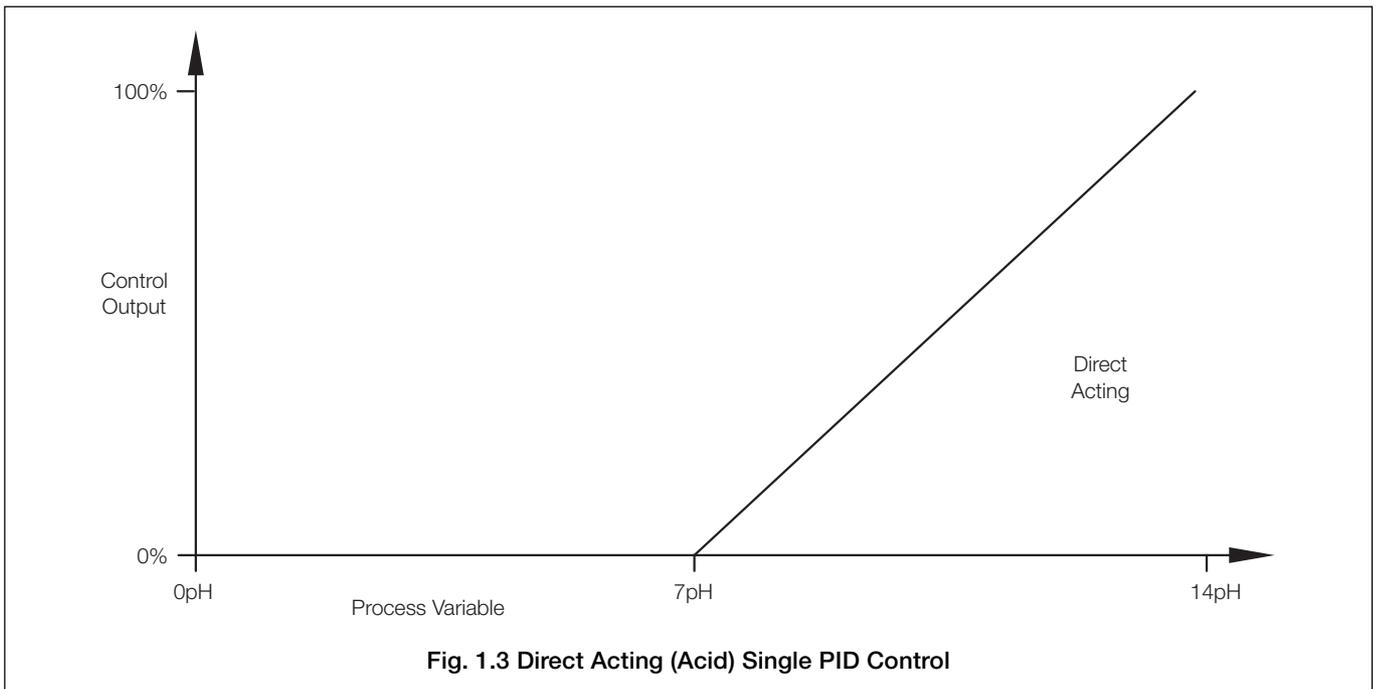

Fig. 1.3 Direct Acting (Acid) Single PID Control
1.1.2 Direct Acting (Acid) Single PID Control – Fig. 1.3